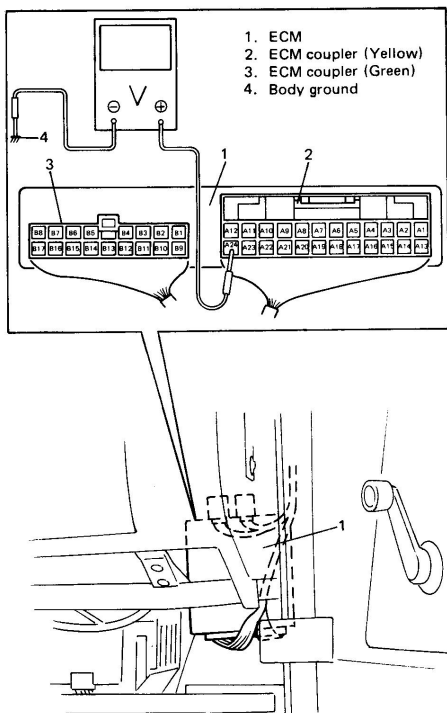

Fig. 4A-35 Checking Voltage and Terminal Position
- For ECM coupler terminal positions (A1, A2 . . . to A24 and B1, B2 . . . to B17), refer to Fig. 4A-35.